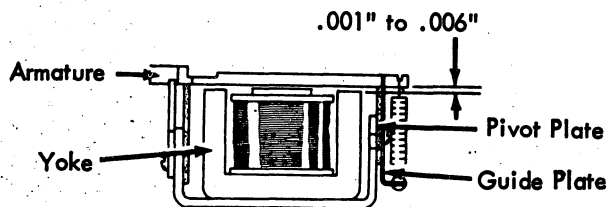
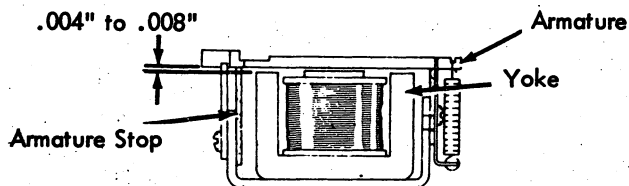

FIGURE 28. Armature Stop
FIGURE 29. Armature Stop
3. **Armature Stop** - With the armature manually attracted, adjust for a clearance of .004" to .008" between the armatures and yokes (Fig. 29 - see Fig. 28 for assembly end view). Measure clearances at the outside armatures (T2 & R5).
4. **Armature Guide** - Position horizontally so that the armatures are centered in the guide slots (Ref. Fig. 28).